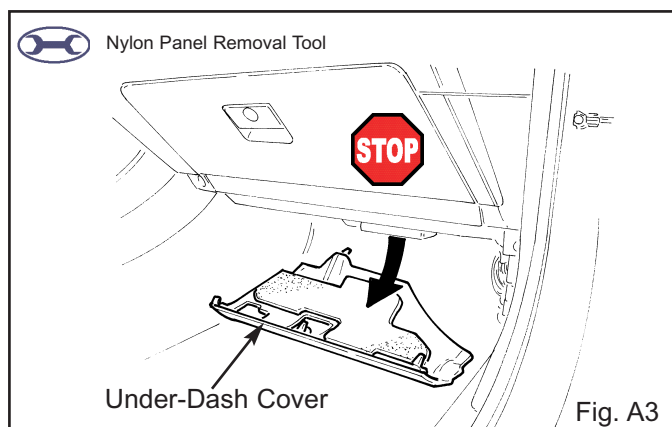

Fig. A3
3. Remove the under-dash cover. (Fig. A3)